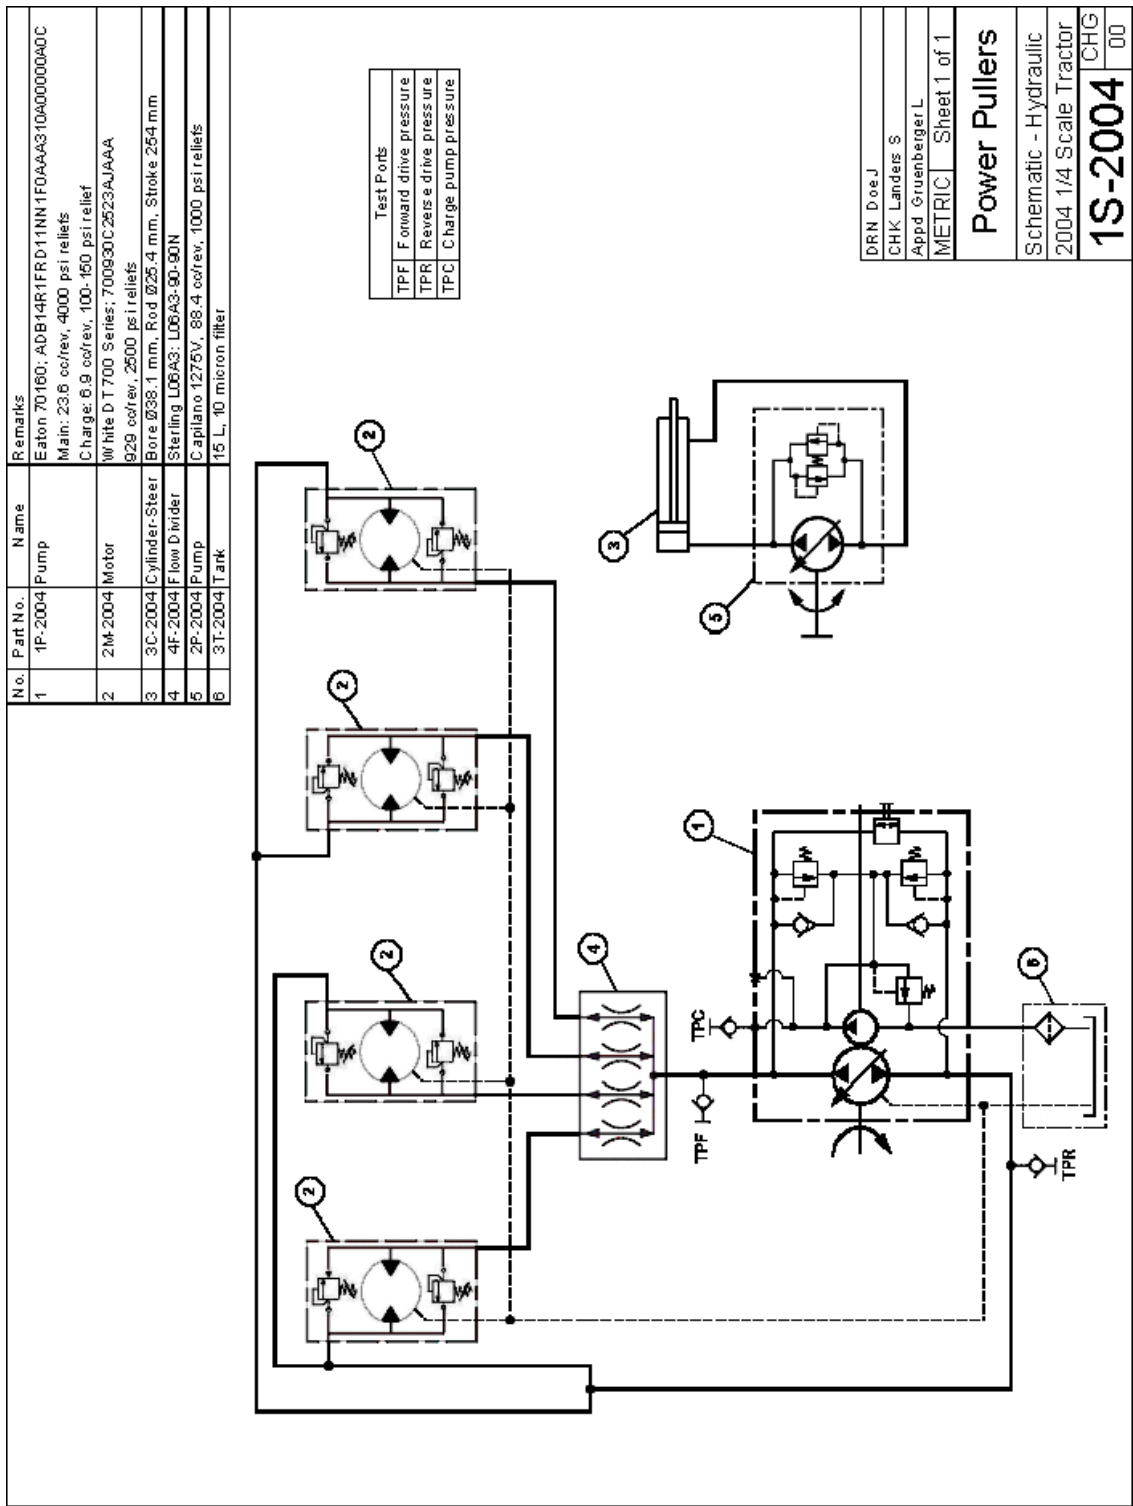

Figure A-9 Example Hydraulic Schematic
19.10. If a hydraulic system is used on the tractor (non-powered brake and steering systems are exempt), a hydraulic system schematic (see Appendix, Figure A-9) and component list (see Appendix, Figure A-10) with factory specified pressure ratings must be submitted to the person named in Section 23.3 by March 25, 2017. If not received by that time, your team will not be eligible for "First Time Through" award for tech inspections. The schematic must include system components (tank, pumps, valves, motors, relief valves, check valves, test ports, etc.) drawn with standard symbols (refer to ISO 1219), as well as specifications pertaining to those components that dictate system operating characteristics (relief valve setting, flow from a pump, check valve ratings, orifice diameters, pump speed ratio, etc.). Any changes after the due date must be submitted to the person named above, immediately. Unpowered hydraulic steering systems do not require this documentation.